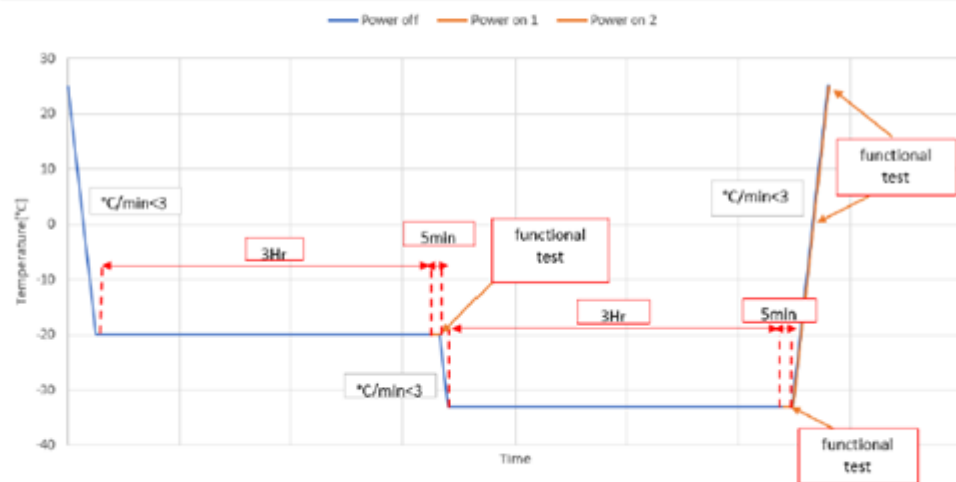

Figure 2: Low Temperature Operational Cycle
- 10. Lower the temperature to -20C for 3 hours as shown in Figure 2 below.
The minimum steady operational temperature is  $-20^{\circ}\text{C}$  with design goal of  $-33^{\circ}\text{C}$  according to Figure 2. The system shall be in operational mode during temperature rise time ( $-33^{\circ}\text{C}$  to  $25^{\circ}\text{C}$ ) and should be tested at  $0^{\circ}\text{C}$  and  $25^{\circ}\text{C}$